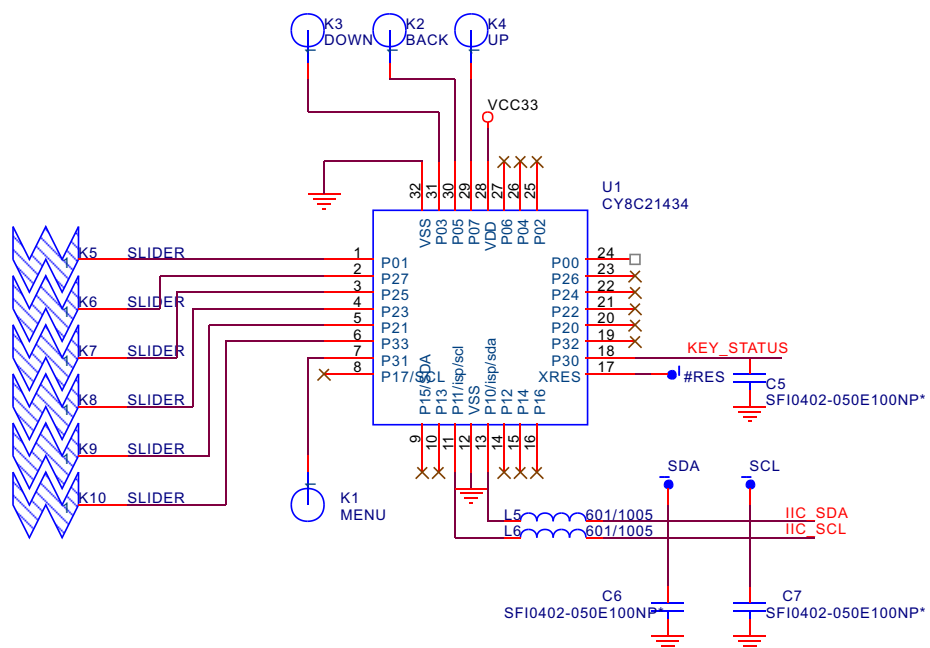

Figure 3.2.5.1button circuit diagram
1.X27 adopts touch button with a CY8C21434 button control IC. CY8C21434 is internally integrated programming digital and analog system, which can configure any function modules needed by users. It is a real embedded device (SoC) which can mix signal processing ability. CY8C21434 chip belongs to capacitor touching mode which adopts I2C bus control. Button circuit diagram is shown in figure3.2.5.1: